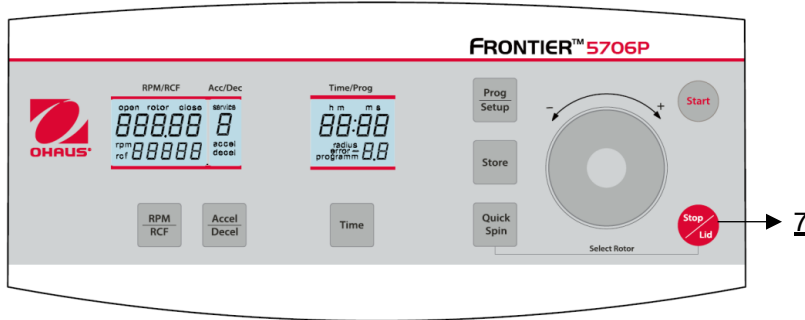

Figure 26
By the "Stop/Lid" key (7) (see Figure 26) you can interrupt the run at any time. After pressing the key, the centrifuge decelerates with the respective pre-selected intensity down to stand still.